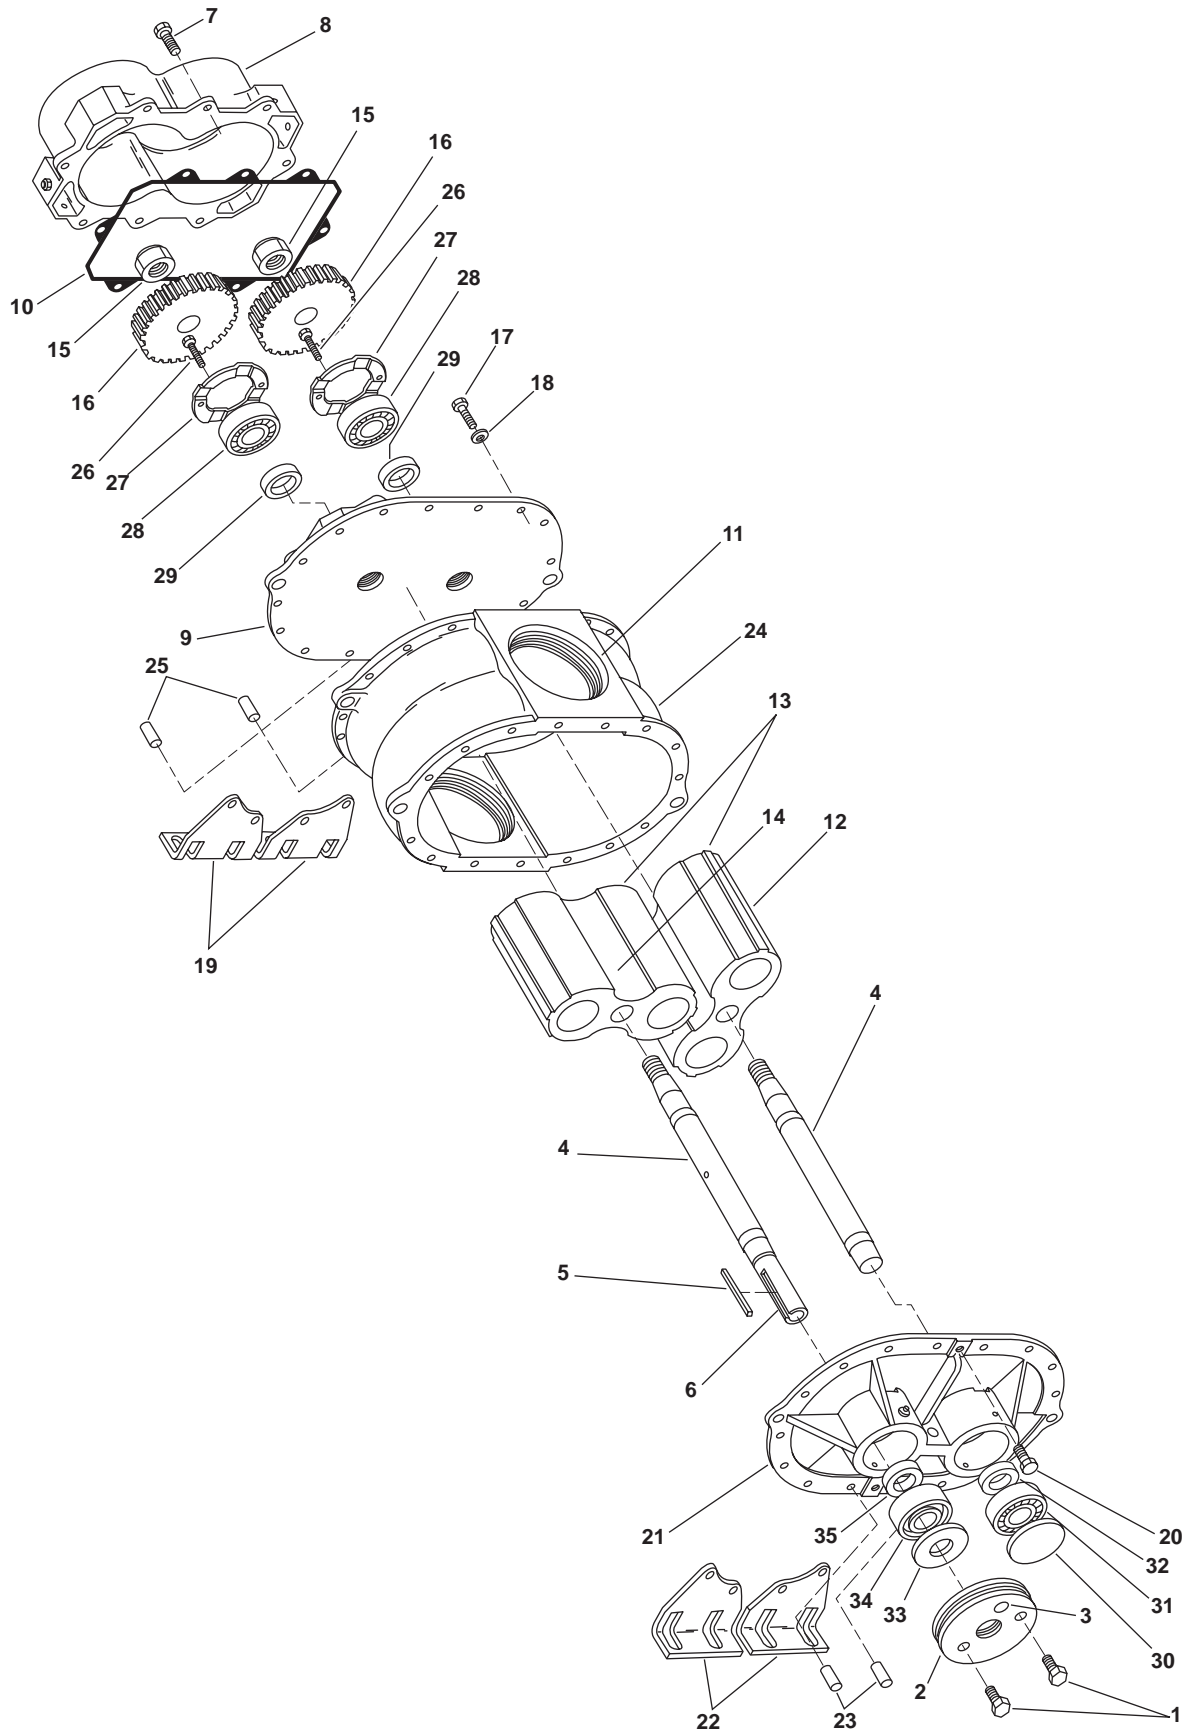

Figure 1. Blower Assembly
2. Remove the two bolts (figure 1, item 1) from the taper lock sheave (figure 1, item 2).
3. Install one of the bolts (figure 1, item 1) in the jacking hole (figure 1, item 3) of the taper lock sheave (figure 1, item 2) and tighten until the taper lock sheave is freed from the drive shaft (figure 1, item 4).
4. Remove the key (figure 1, item 5) from the drive shaft (figure 1, item 4). Remove any burrs from the key and the keyway (figure 1, item 6).
5. Remove the eight bolts (figure 1, item 7) from the gearbox cover (figure 1, item 8).
6. Remove the gearbox cover (figure 1, item 8) from the gear end head plate (figure 1, item 9).
7. Remove the gasket (figure 1, item 10) from the gearbox cover (figure 1, item 8). Discard the gasket.
8. Through the blower pipe connection (figure 1, item 11), place an alignment mark on the strip (figure 1, item 12) of one impeller (figure 1, item 13) and on the mating waist (figure 1, item 14) of the other impeller using a piece of chalk or an indelible marker.
10. Loosen, but do not remove, the gear nuts (figure 1, item 15) from the drive shafts (figure 1, item 4).
11. Using a mechanical puller, unseat the gears (figure 1, item 16) from the drive shafts (figure 1, item 4).
12. Remove the gear nuts (figure 1, item 15) and the gears (figure 1, items 16) from the drive shafts (figure 1, item 4). Note the location of each gear for use during assembly.
13. Remove the 14 bolts (figure 1, item 17) and two washers (figure 1, item 18) from the gear end head plate (figure 1, item 9). Remove the gear end feet (figure 1, item 19).
15. Remove the 14 bolts (figure 1, item 20) from the drive end head plate (figure 1, item 21). Remove the drive end feet (figure 1, item 22).
16. Drive out the two dowel pins (figure 1, item 23) in the drive end head plate (figure 1, item 21).
17. Position the cylinder (figure 1, item 24) so the drive shafts (figure 1, item 4) are vertical on the gear end.
18. Using a brass hammer, tap the drive shafts (figure 1, item 4) through the gear end head plate (figure 1, item 9) and into the cylinder (figure 1, item 24).
19. Make single and double identifying punch marks on the mating edges of the gear end head plate (figure 1, item 9) and the cylinder (figure 1, item 24) to aid in proper orientation of the gear end head plate upon assembly.
20. Drive out the two dowel pins (figure 1, item 25) from the gear end head plate (figure 1, item 9).
21. Remove the four self locking cap screws (figure 1, item 26) from the two bearing clamp plates (figure 1, item 27). Remove the bearing clamp plates and discard the self locking cap screws.
22. Remove the gear end head plate (figure 1, item 9) from the cylinder (figure 1, item 24).
23. Working from the inside of the gear end head plate (figure 1, item 9), tap the two bearings (figure 1, item 28) and the two bearing seals (figure 1, item 29) out of the gear end head plate. Discard the bearings and seals.
24. Make single and double identifying punch marks on the mating edges of the drive end head plate (figure 1, item 21) and the cylinder (figure 1, item 24) to aid in proper orientation of the drive end head plate upon reassembly.
25. Position the cylinder (figure 1, item 24) so the drive shafts (figure 1, item 4) are vertical on the drive end.
26. Using a brass drift, tap the drive shafts (figure 1, item 4) through the drive end head plate (figure 1, item 21) and into the cylinder (figure 1, item 24).
27. Remove the drive end head plate (figure 1, item 21) from the cylinder (figure 1, item 24).
28. Remove the impellers (figure 1, item 13) and the drive shafts (figure 1, item 4) from the cylinder (figure 1, item 24).
29. Remove the drive shafts (figure 1, item 4) from the impellers (figure 1, item 13).
30. Working from the back of the drive end head plate (figure 1, item 21), tap the bearing cover (figure 1, item 30), the driven bearing (figure 1, item 31), and the bearing seal (figure 1, item 32) from the drive end head plate. Discard the bearing and seal.